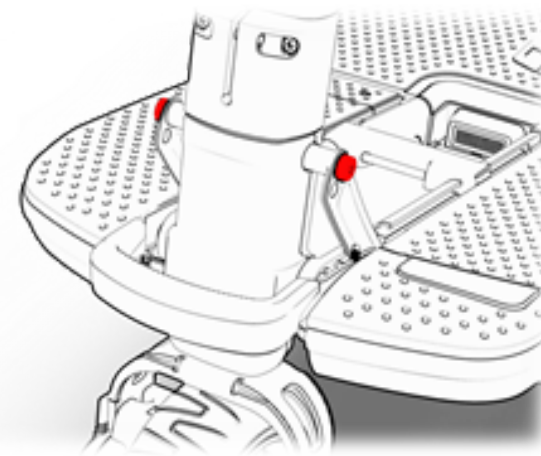

Figure 26 Tiller angle adjustment screws
1. Your ATTO must be in an open position to adjust the tiller angle. Once opened, locate and release the two Allen (hex) screws (see highlighted in red in Figure 26). Make sure you keep holding the tiller in an upright position (you must hold the tiller to prevent it from falling while releasing the screws).